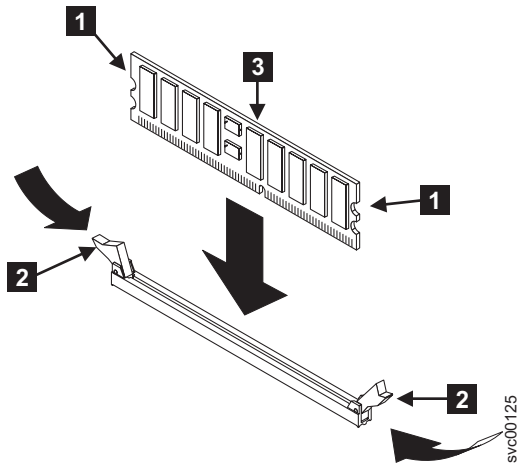

Figure 100. Replacing a memory module
1. With the clips **2** open, lower the memory module **3** into the connector, as shown in Figure 100 on page 99. Insert the DIMM fully to close the clips.